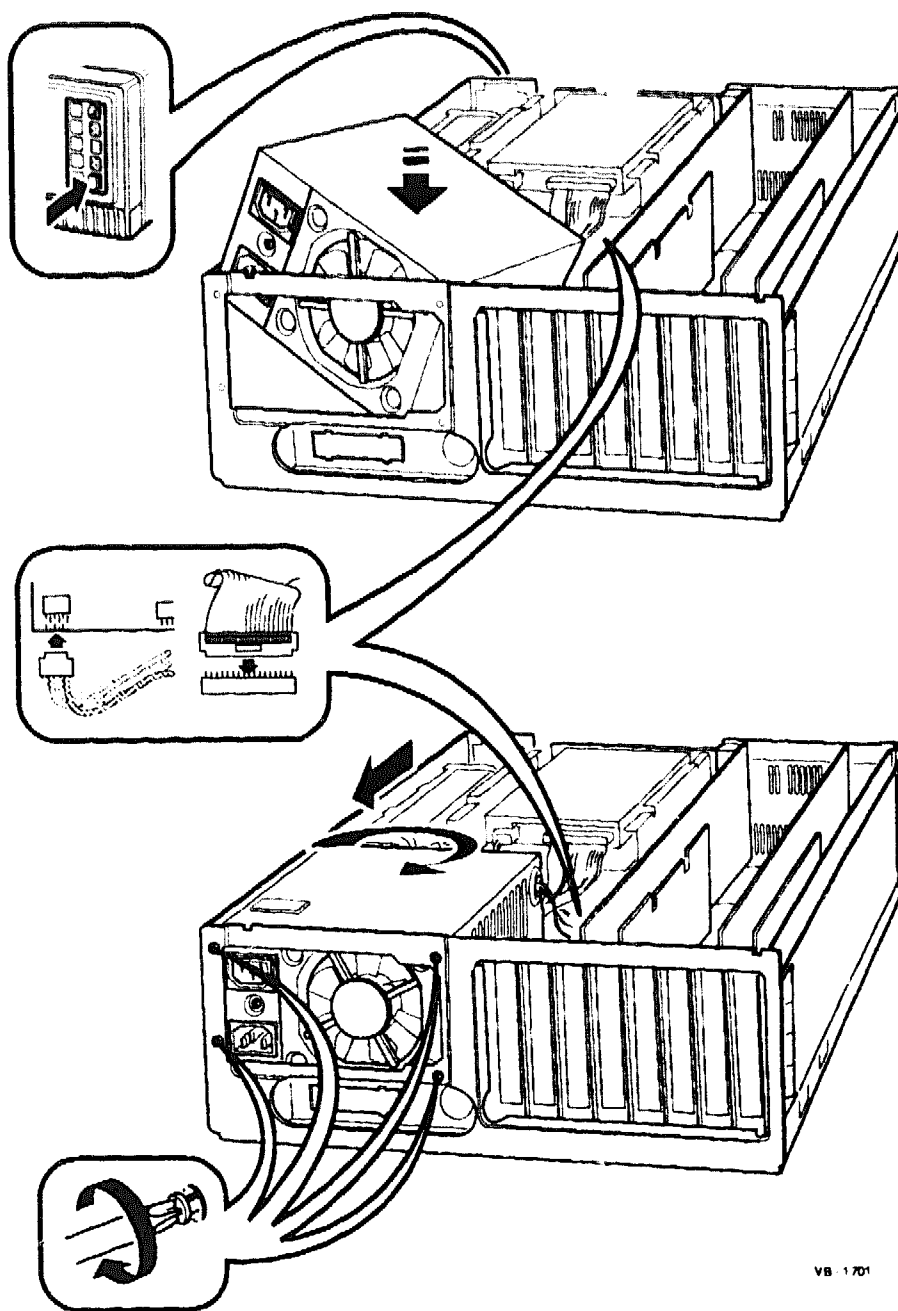

Figure 5-18 Replacing the Power Supply
3. Connect the power supply cable to the power connector on the hard disk drive, and connect the two keyed power supply cables to the connectors on the bus expansion board (Figure 5-18).